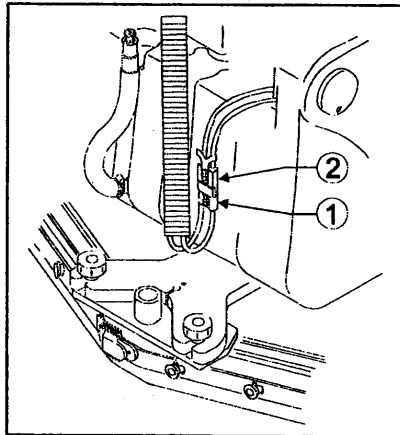

Fig. 4
- 2) disconnect the Anderson connector (fig. 4, ref. 2) of the battery wiring from the corresponding Anderson connector (fig. 4, ref. 1) of the main wiring;
- 8) after having checked that all switches on the control panel are at the position "0" (off), connect the battery wiring connector (fig. 4, ref. 2) to the machine wiring connector (fig. 4, ref. 1);